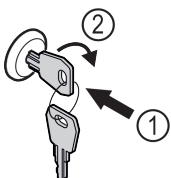

Fig. 161 Example illustration
- Insert key Fig. 161 (1).
- Turn key clockwise by 90° Fig. 161 (2).